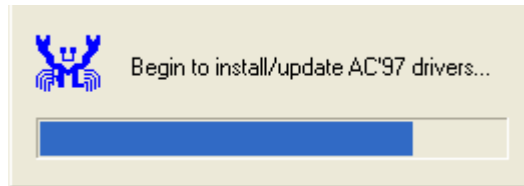

Figure 7-28: AC'97 Driver Installation
Step 7: The driver installation begins. See Figure 7-28.